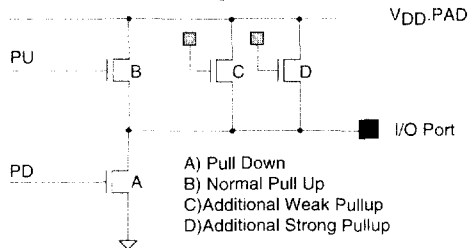

Figure 5: IQX Output Driver and Pull-Up Current
As shown in Figure 5, the I/O Port contains several n-channel pull-up devices. The normal pull-up current is supplied by a device which is switched on/off by internally generated control signal. An additional *static* pull-up current (I_{PU-WK}) or (I_{PU-SG}) can be programmed at each I/O Port pin. This additional pull-up current is primarily used for but not restricted to the Bus Repeater (BR) mode.